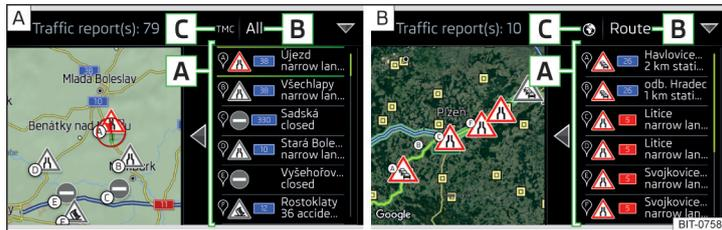

Fig. 224 List of traffic reports: TMC source/online source
In the list of traffic reports and in the map, a max. of 6 reports are displayed. These are provided with a letter and the traffic obstruction symbol (e.g. , , ) » Fig. 224.
On the position **C** » Fig. 224 can the following symbols be displayed.
► **Route guidance is taking place** - After tapping the function surface **B** » Fig. 224 in the displayed menu all traffic messages can be selected by tapping the function surface **All**, or by tapping the function surface **route** Only the traffic messages present on the route can be selected.